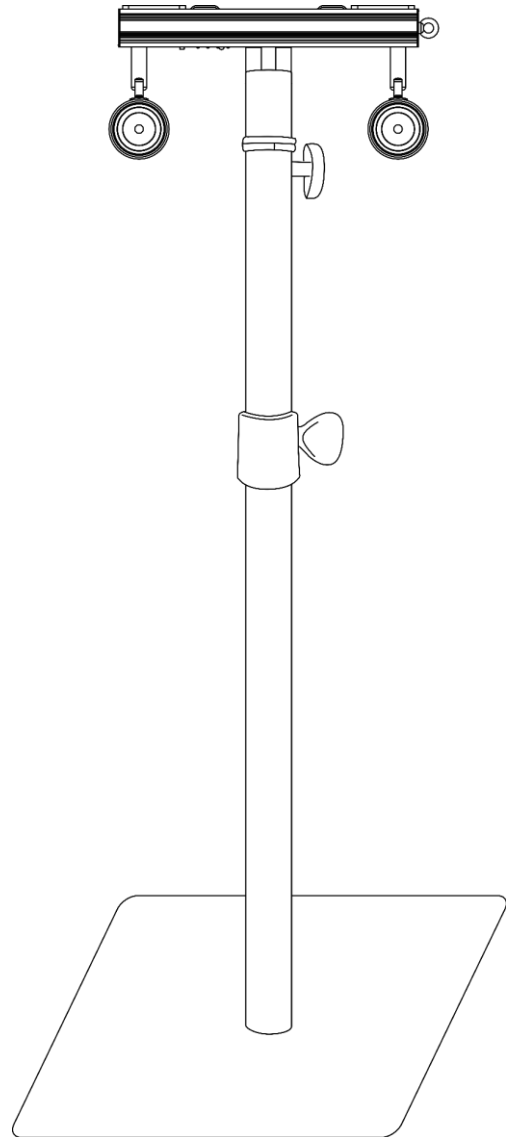

Fig. 10
- 03) Release the button on the WENTEX® telescopic upright to secure the device (Fig. 10).